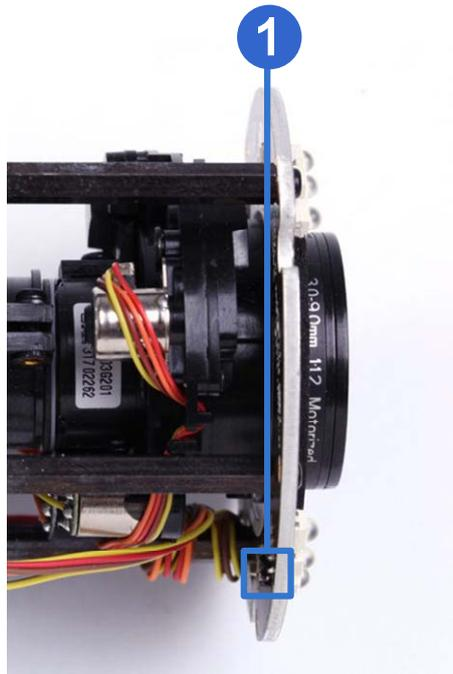

Figure 1-14
7. Based on the live view, adjust the angle, zoom and focus of the camera of the camera. For adjusting three shafts, see 1.2.7 Adjusting the Angles. For changing zoom and focus, see Figure 1-14.